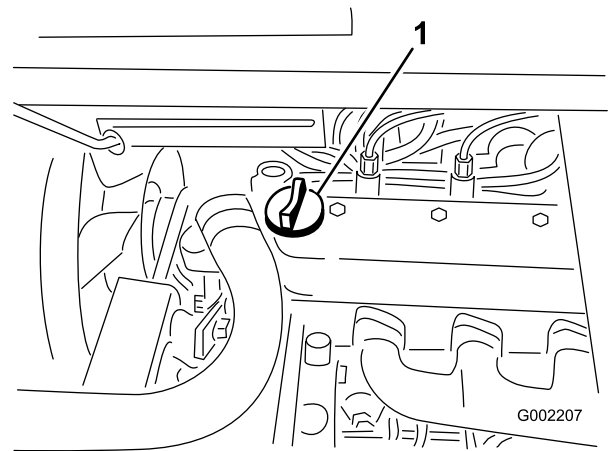

Figure 17
3. If the oil level is low, remove the filler cap from the valve cover (Figure 17) and pour oil into the opening until the oil level is up to the Full mark on the dipstick; refer to Servicing Engine Oil, in the Engine Maintenance section, for the proper oil type and viscosity. Add the oil slowly and check the level often during this process. Do not overfill.